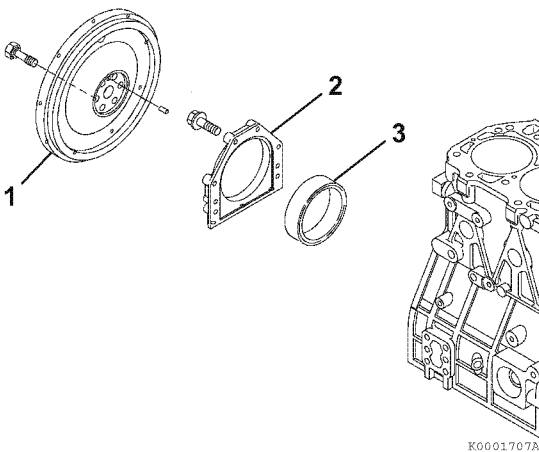

Figure 6-66
3. Remove the rear oil seal (Figure 6-66, (3)) from the seal housing (Figure 6-66, (2)).
4. Apply a continuous bead of ThreeBond Liquid Gasket No. 1207F, YANMAR Part No. 977770-1207F to the outside diameter of a new oil seal (Figure 6-66, (2)), and install in the housing. Apply lithium grease to the lip of the seal.